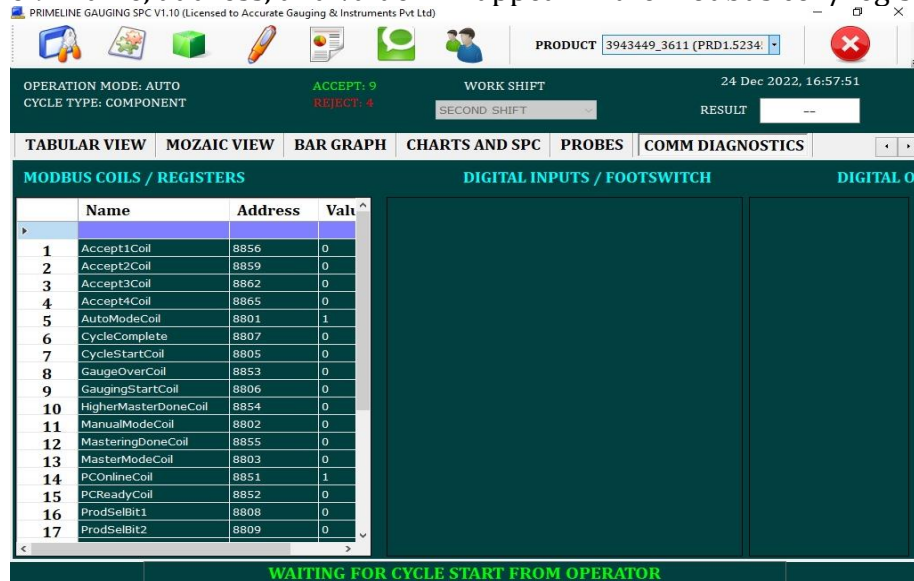

Figure 9
- Click on the communication diagnostics tab. The following window can be seen in figure 9. Name, address, and value will appear in the Modbus coil/register.